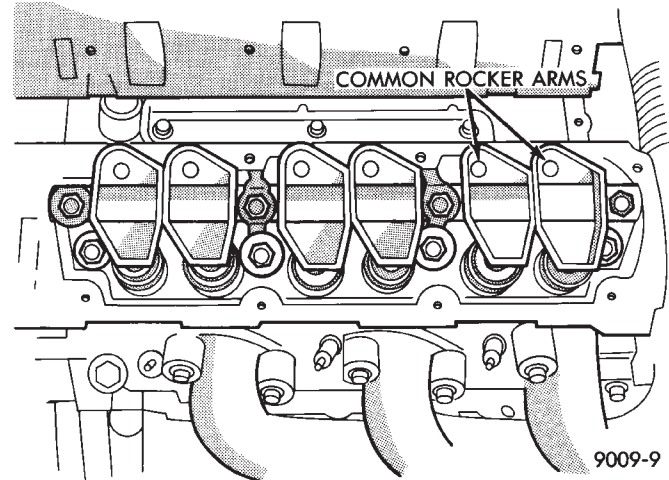

Fig. 5 Rocker Arm Location Left Blank
- (1) Remove upper intake manifold assembly. Refer to Intake and Exhaust Manifolds, Group 11.
- (2) Disconnect spark plug wires by pulling on the boot straight out in line with plug.
- (3) Disconnect closed ventilation system and evaporation control system from cylinder head cover.
- (4) Remove cylinder head cover and gasket.
- (5) Remove four rocker shaft bolts and retainers.
- (6) Remove rocker arms and shaft assembly.
- (7) If rocker arm assemblies are disassembled for cleaning or replacement. Assemble rocker arms in their original position refer to (Fig. 5) for rocker arm for positioning on the shaft.
- (1) Install rocker arm and shaft assemblies with the stamped steel retainers in the four positions, tighten to 28 N•m (250 in. lbs.) (Fig. 5).